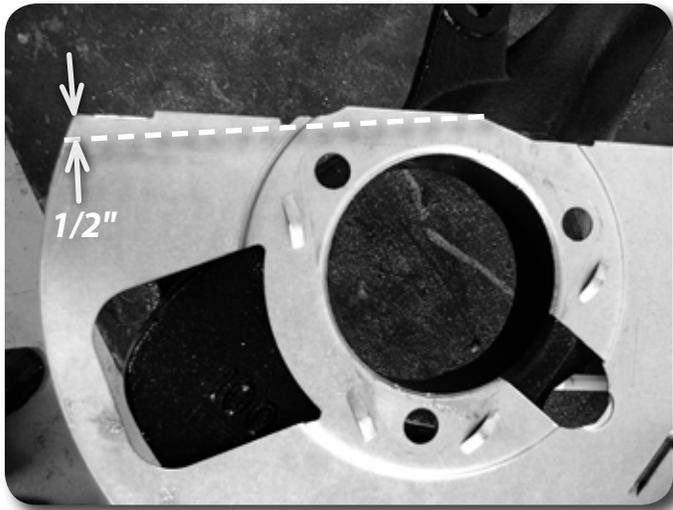

Figure 31
56. The brake dust shield needs to be trimmed. Measure in from the lower vertical edge (opposite the ABS sensor location) 1/2" and make a straight line to the edge shown in **Figure 31**. Cut the section off of the brake dust shield.